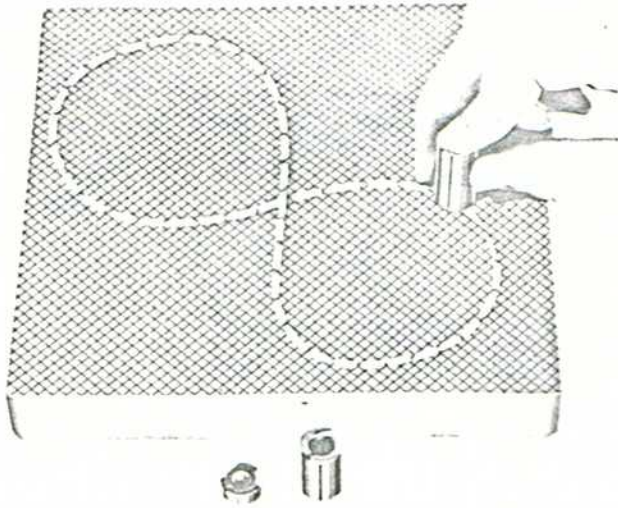

Fig. 14 - Lapping Injector Parts
- (1) Clean off lapping block using compressed air. Do not use a cloth or other material for this purpose.
- (2) Sprinkle some lapping compound #8201459 on one of the lapping blocks. (A common salt shaker is good for this purpose.)
- (3) Place the part to be lapped flat on the block, as shown in Fig. 14, moving it back and forth across the block using a